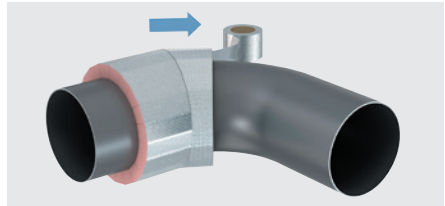

Figure 21: Ensure no gaps arise in the joints
- When positioning the next tapered insulation element, ensure that a proper fit is made and no gaps arise in the joints (Figure 21).